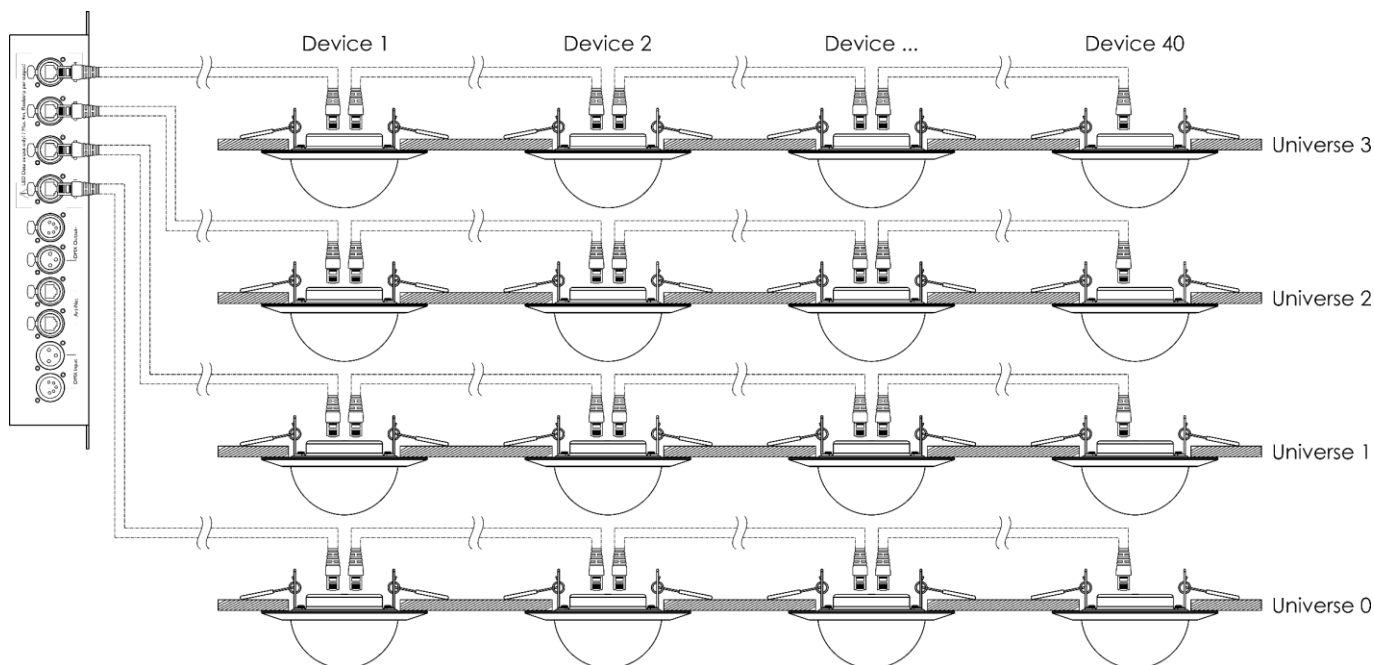

Fig. 07
Connect the Pixel Controller's output port to the Pixel Dot's **RJ45 input connector (03)** with a CAT cable (max. 10 m). For more information about the connection of power supply, see Fig. 07 on page 10 and refer to the user manual of the Pixel Controller (44510).
- 04) Repeat step 3 to connect up to 40 Pixel Dots per output, as shown in Fig. 07 on page 10.